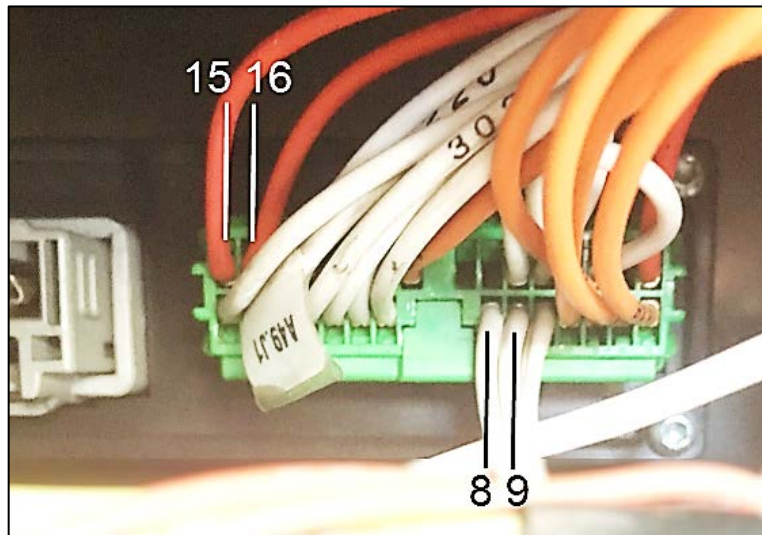

Figure 26: A49. J1
(Figure 26)
- 4.4 With key OFF and Emergency cut out switch ON, read voltage at A49 pin 15 and pin 16. If voltage is present, this is an alternator with an internal short circuit. (Figure 26)